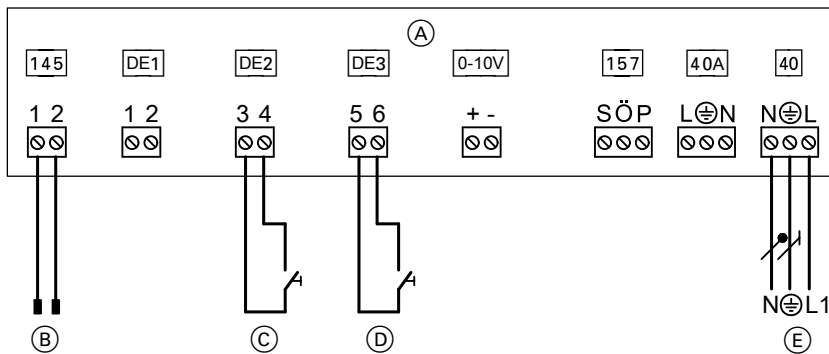

Fig. 29
- To EA1 extension as shown in Fig. 29